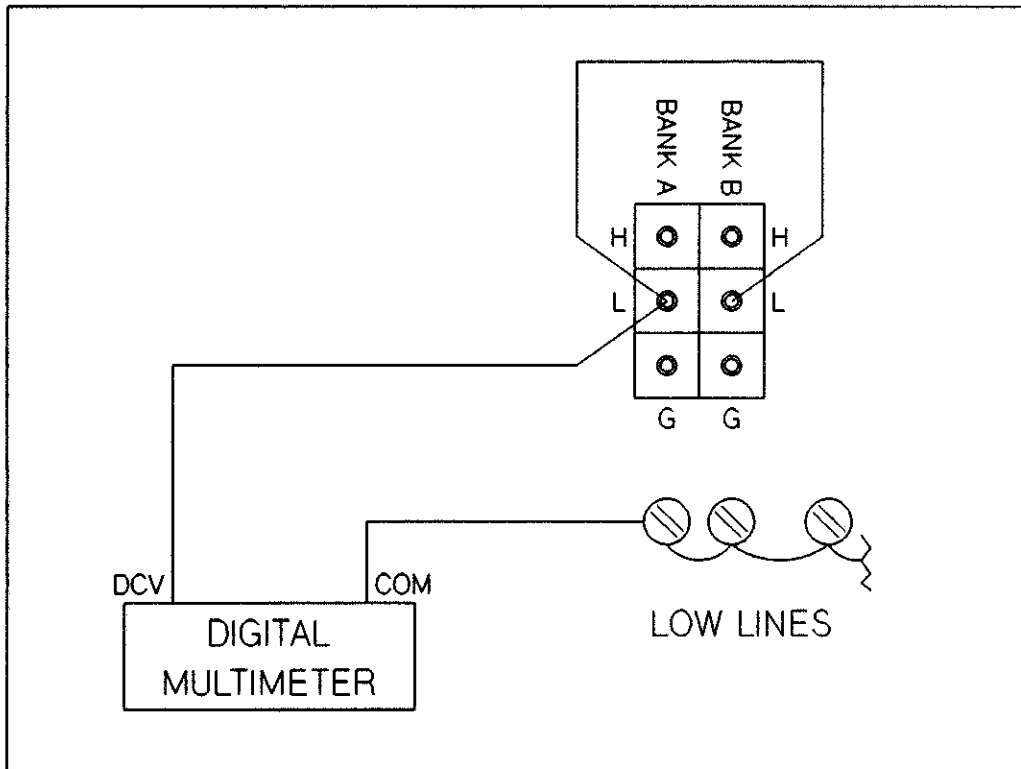

Figure 9-8 HP 44709A/44710A LOW Channel Test Set-Up
8. Refer to Figure 9-8. Connect the multimeter DCV lead to the Bank A LOW common test point on the test fixture. Connect the multimeter COM lead to the shorted LOW connections of the channels. Short the Bank A and Bank B LOW common test points together.